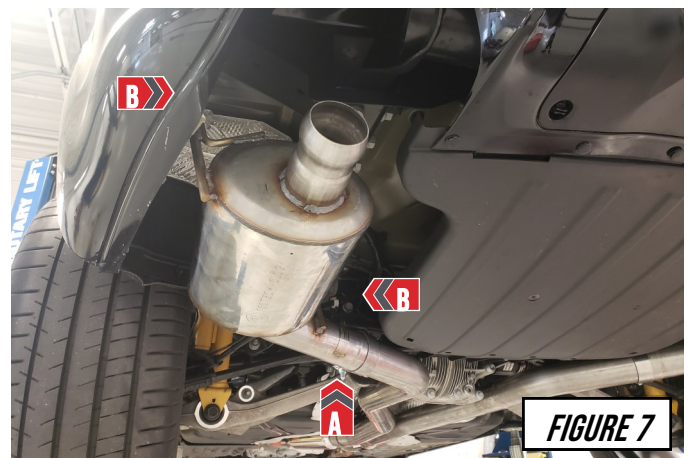

FIGURE 7
Gather the AWE **DS** mid pipe and **DS** rear section. The axle pipe has no hangers, for ease install both tube sections, as shown in **Figure 7**, with the supplied clamp at (A) and the OEM hangers at (B).